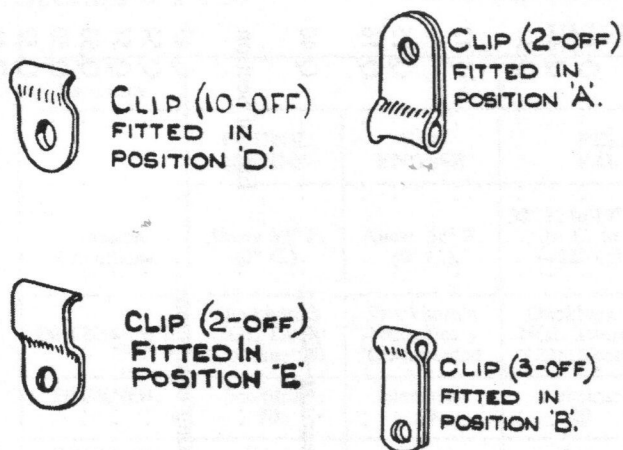

Fig. Q.1
- (10) Cable clips (17) (see Fig. Q.1) with suitable fixing bolts and nuts.